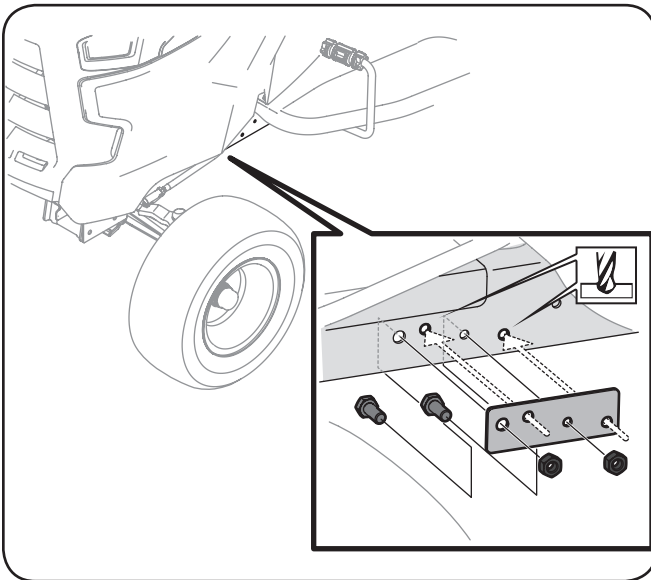

Figure 3-22
- Align template B on the left side of the tractor and secure in place with the hex screws and nuts from the Snow Cab/Sun Shade Mounting Kit. See Figure 3-22.
- Drill the appropriate holes with the $\frac{9}{32}$ " drill bit provided in the Snow Cab/Sun Shade Mounting Kit. See Figure 3-22.